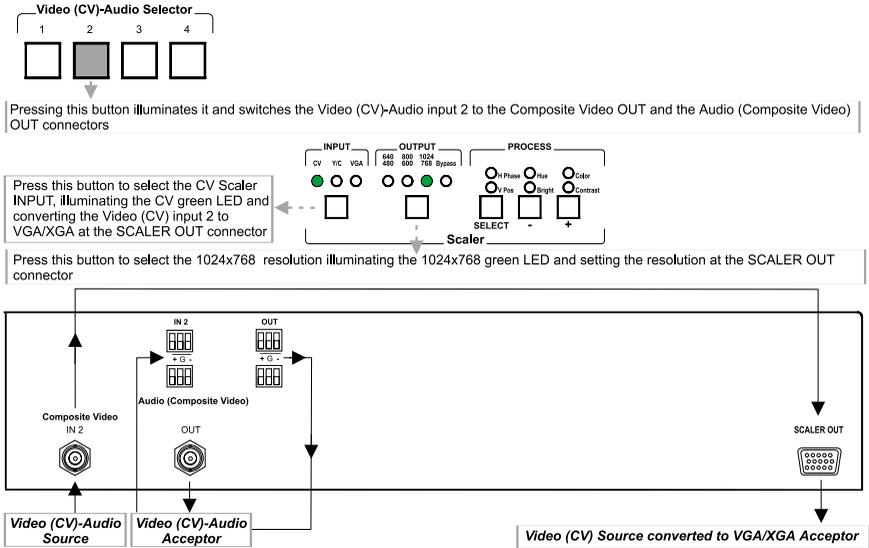

Figure 7: Scaling a CV Input to a VGA/XGA Output
- Press one of the 4 buttons from the corresponding¹ Video (CV)-Audio section or the s-Video (Y/C)-Audio section (if it is not already selected). The button illuminates, indicating selection and conversion² of that video source.
Figure 7 illustrates how to scale Video (CV)-Audio input 2, converting it to VGA/XGA-Audio at 1024x768 resolution at the SCALER OUT connector.